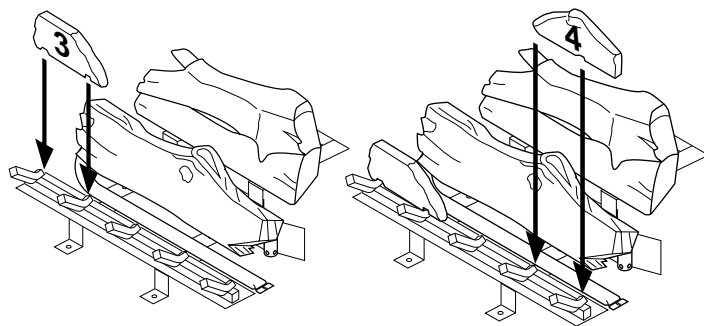

Figure 53 - Installing Log No. 3      Figure 54 - Installing Log No. 4
4. Place log #3 (left piece) onto the front left part of the grate. Make sure it is seated properly over the prong of the grate as shown in Figure 53.